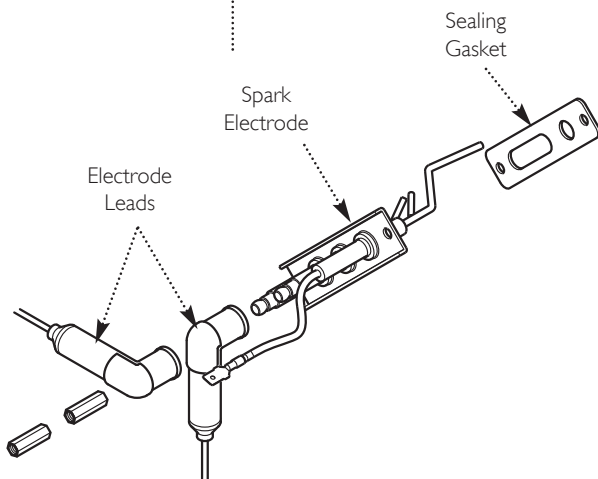

Fig. 78
14.2 Electrode Assembly (Fig. 78)